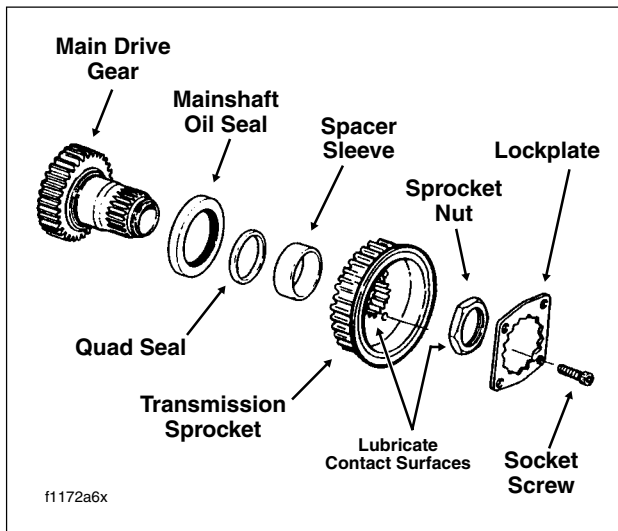

Figure 6-17. Transmission Sprocket Components
- See Figure 6-17. Remove the two socket screws and lockplate to free the sprocket nut.